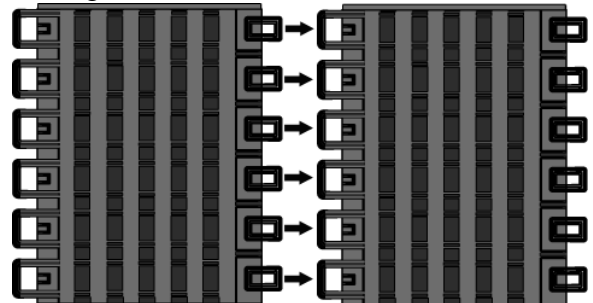
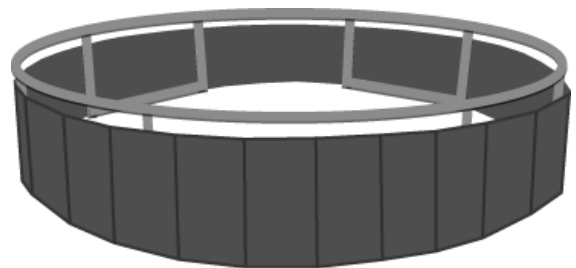

Figure 1
Figure 2
3. Snap the TDU surrounding wall panels together (Figure 1) until they form a complete circle **around** the frame of your trampoline (Figure 2)